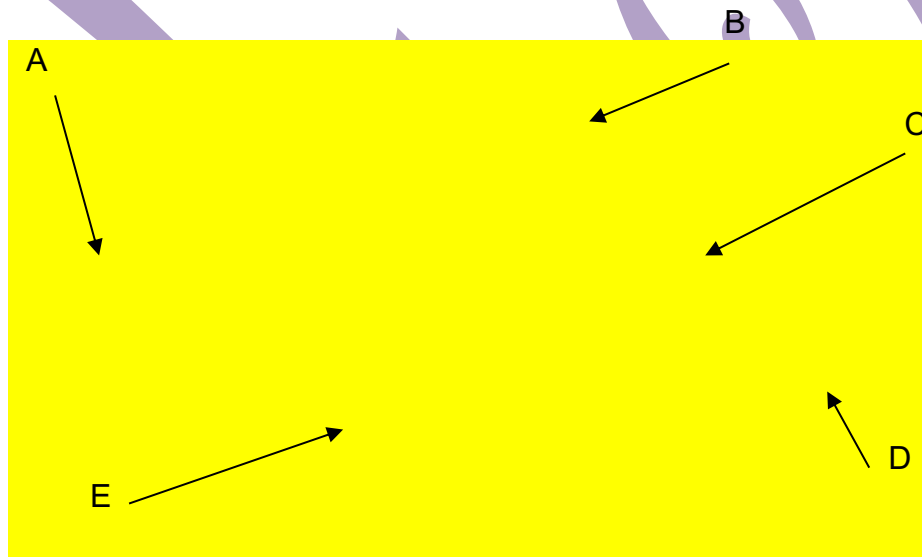

FIGURE 1
- 1.3 Refer to FIGURE 1 which shows a representation of a universal coupling and label the parts (A–E) in the ANSWER BOOK.